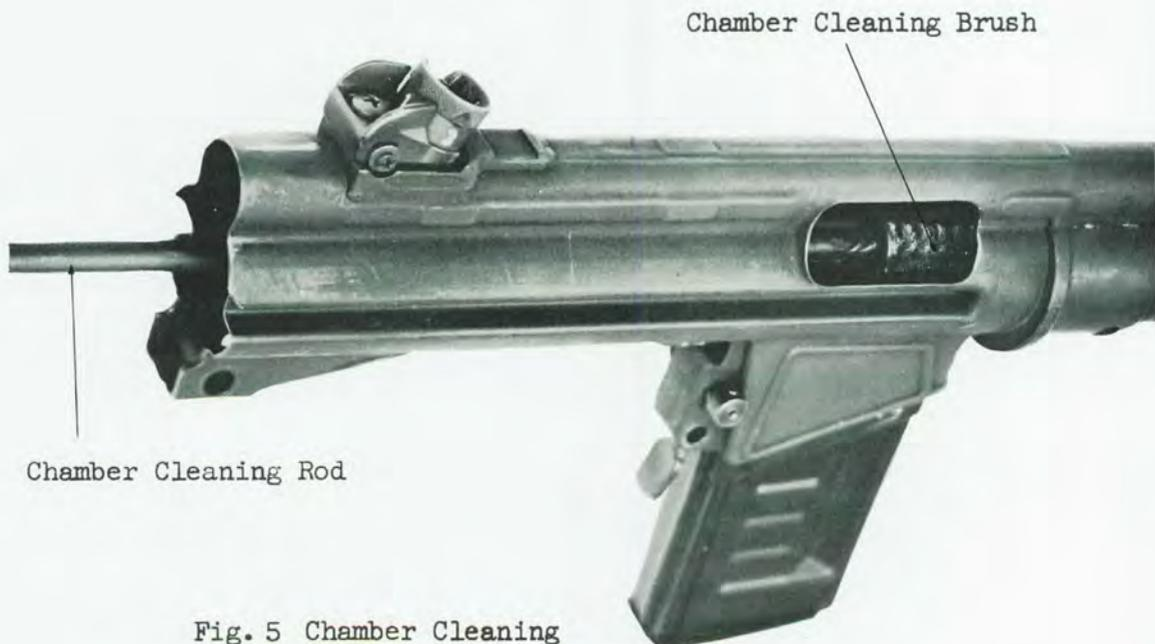

Fig. 5 Chamber Cleaning
- (1) Immediately after firing, thoroughly clean bore with rifle bore cleaner, making certain that all surfaces, including the rifling are well coated. The bore should be swabbed with a saturated flannel cleaning patch, making certain no trace of burned powder or other foreign substances are left in the bore. Wipe dry and apply a light coat of lubricating oil.
- (2) The chamber should be cleaned with a chamber cleaning brush (fig. 5), wiped clean, and oiled lightly. Other metal parts should be cleaned with a dry cloth to remove dampness, dirt, perspiration, and oiled lightly.
- (3) Use rifle bore cleaner to clean all parts which have been exposed to powder fouling during firing. Care should be used to wipe parts dry and lubricate where necessary.